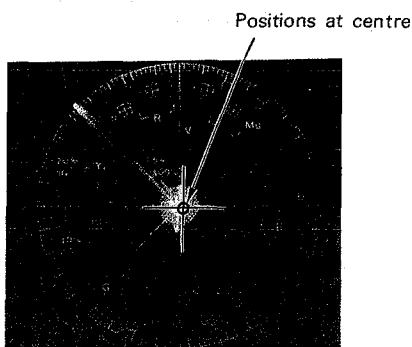

Fig. 4-12
- If the vector does not position at the centre of vectorscope, press **PG DN** key twice to return to (14)-3, and repeat above procedure until vector positions at the centre of vectorscope as shown in Fig. 4-12.